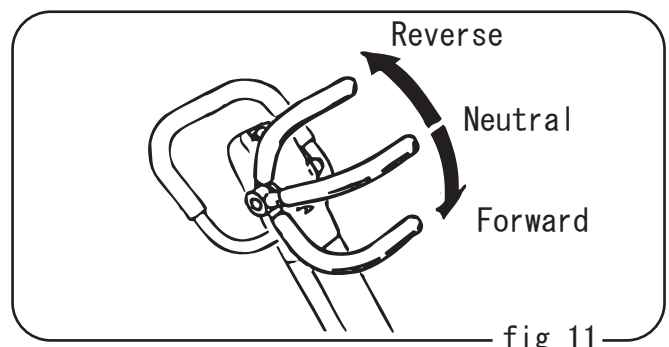

fig. 11
2. Operate travel lever to have compactor travel forward or reverse. Push the lever forward for forward travel, pull it back for reverse and place it in neutral for vibration in place. (fig.11)